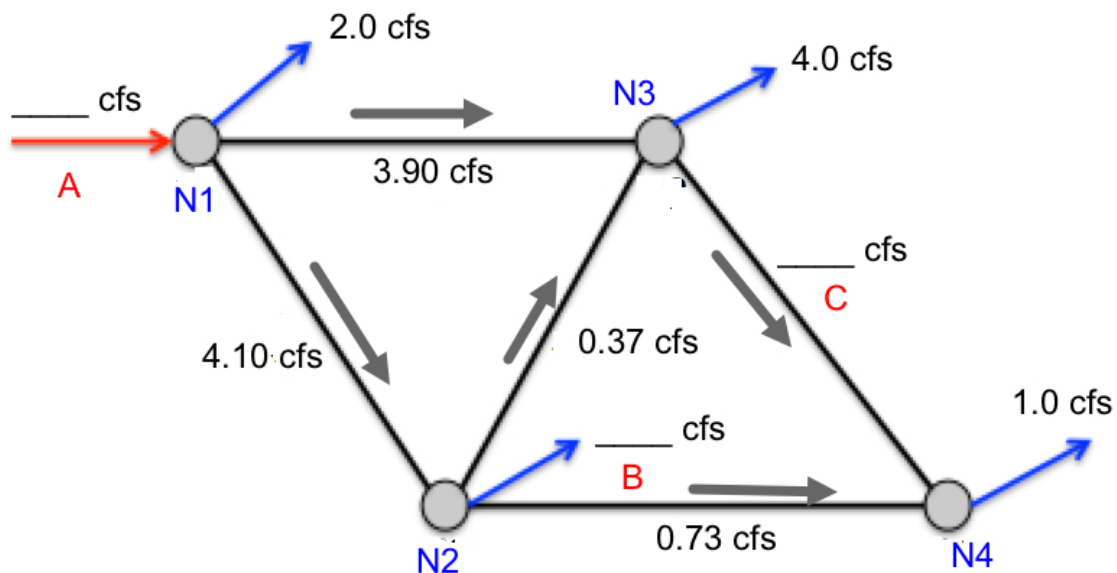

Figure 2: Schematic of a distribution network
Figure 2 is a schematic of a water distribution network. The blue arrows represent demand at the nodes. The grey arrows represent discharge in the adjacent pipes. The red arrow represents flow entering the network from some external source.
12. The number of nodes (how many) in the diagram on Figure 2 is:
13. The number of pipes (how many) in the diagram on Figure 2 is:
14. The number of unique closed loops (how many) in the diagram on Figure 2 is:
15. The discharge in the pipe that joins nodes N1 and N3 on Figure 2 is:
16. The discharge in the pipe that joins nodes N1 and N2 on Figure 2 is:
17. The discharge in the pipe that joins nodes N2 and N4 on Figure 2 is:
18. The discharge in the pipe that joins nodes N3 and N4 on Figure 2 is:
19. The demand at node N2 on Figure 2 is:
20. The discharge in the (RED) supply pipe that injects water at node N1 on Figure 2 is: